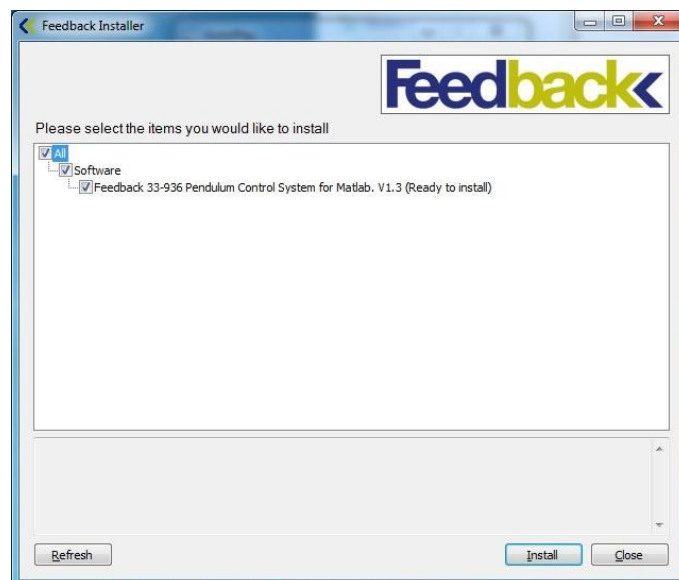

Figure 9 Program Installation Manager window
3. After launching the setup program, the program installation manager dialog will appear on the screen (Figure 9).